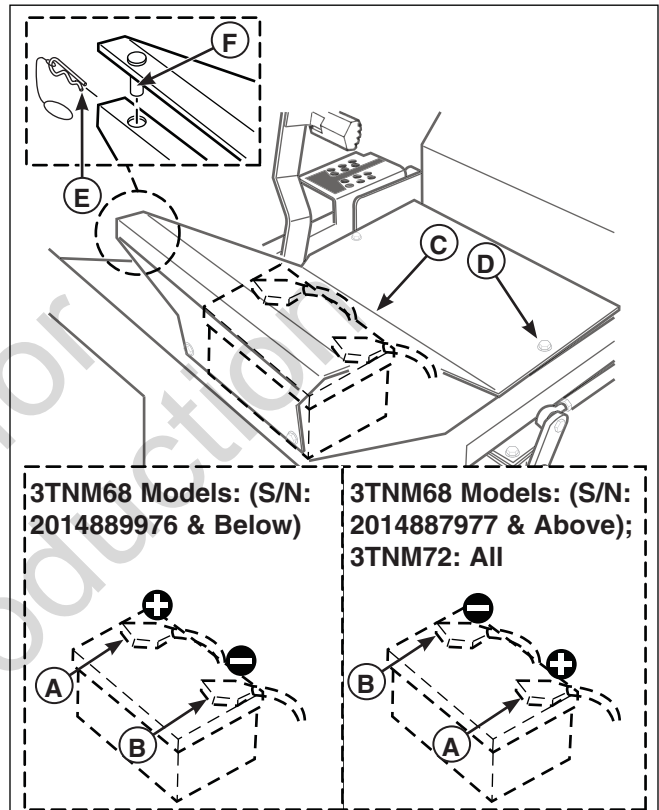

Figure 32. Battery Compartment
- (CE Models Only):** Loosen and remove the floor pan retaining bolt (D, Figure 32).
- (All Models: 2014696070 & Below):** Tilt the left side of the floor pan (C) up so that the locking pins clear the holes in the frame. Slide the floor pan to the left until it stops.
- (All Models: 2014696071 & Above):** Remove the two hair pins with lanyards (E) from the floor pan retention pins (F).